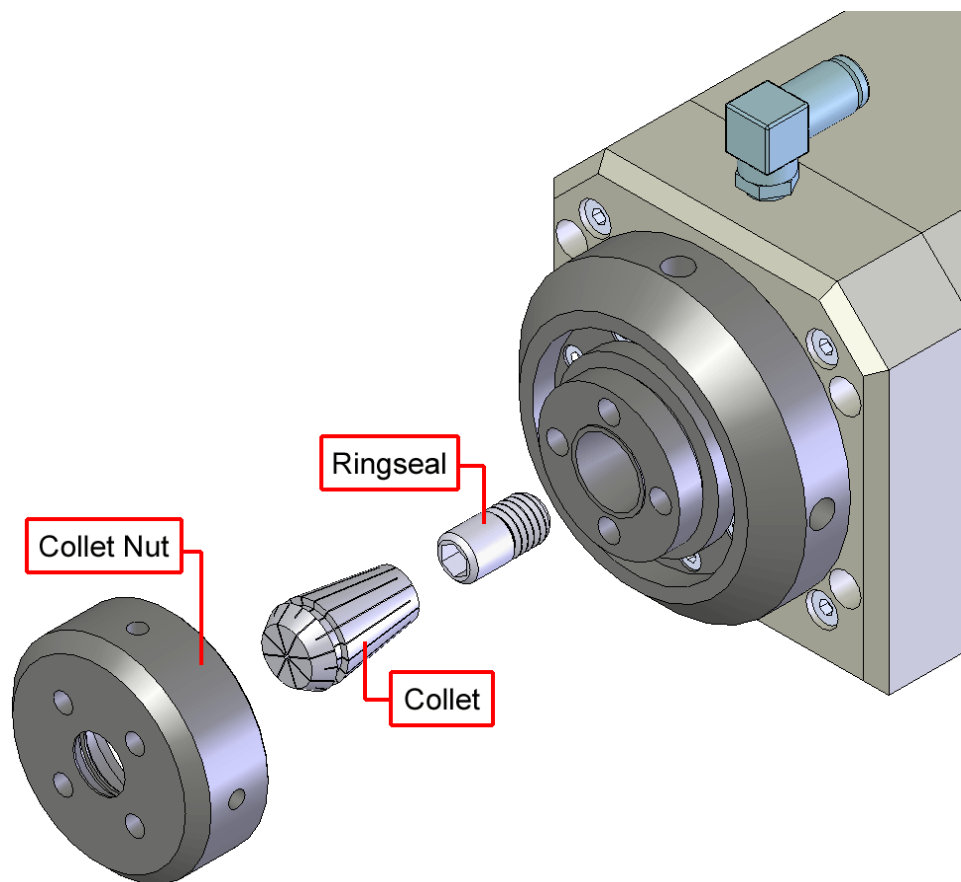

Figure 4-1: Ringseal Removal and Replacement
3. Once the collet has been released, unscrew the collet nut as shown in Figure 4-1. If necessary, use a spanner wrench available from Aerotech.